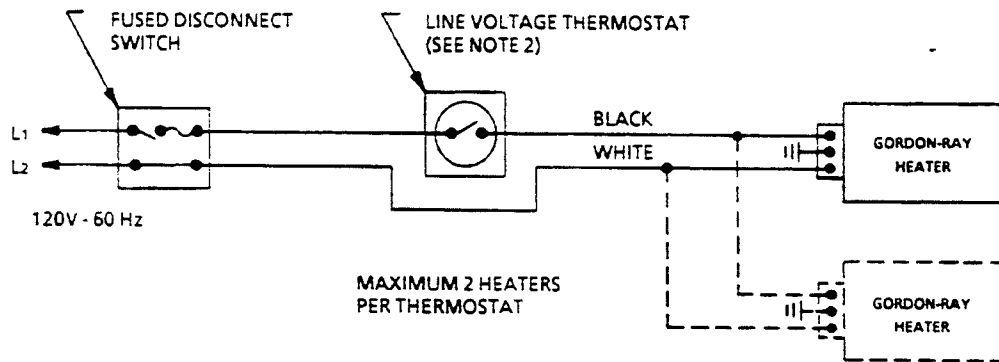

FIGURE 5. WIRING OF LINE VOLTAGE THERMOSTAT
Heaters are normally controlled by thermostats (see Figure 5). Line voltage thermostats are wired directly; the recommended 24 volt thermostats use a relay per Figure 6. Heaters must be grounded in accordance with National Electrical Code ANSI/NFPA 70-1987.
3. FOR LOW VOLTAGE THERMOSTAT AND/OR PARALLEL BURNER OPERATION SEE WIRING DIAGRAM, FIGURES 5 OR 6.